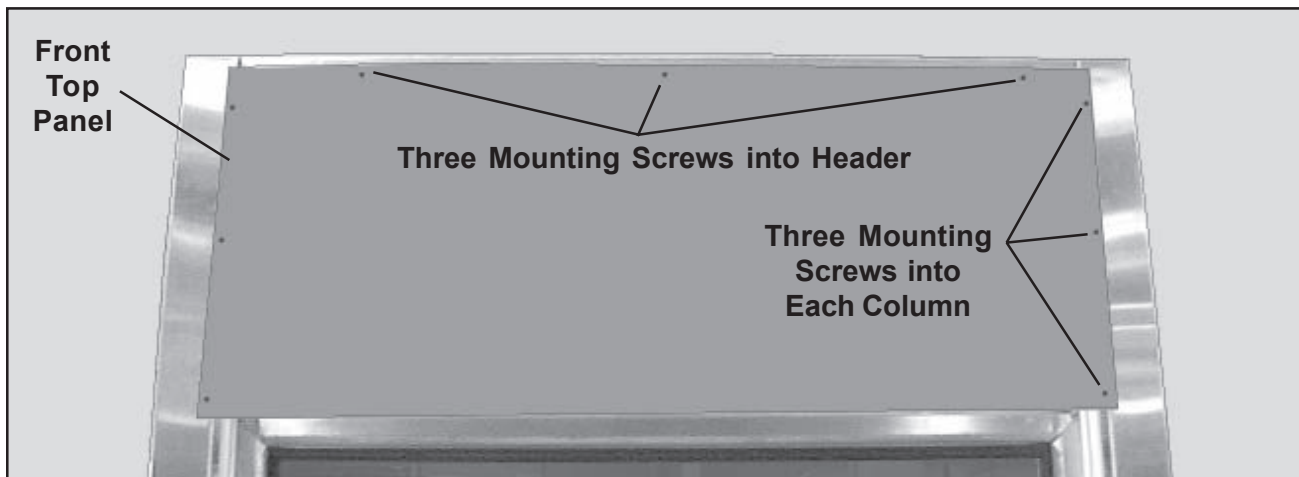

Figure 75. Front View of Cubicle Showing Front Top Panel
1. Remove the three Phillips screws that hold the front top panel to each column (Figure 75).
1. With a Phillips screwdriver, remove the nine mounting screws that hold the front top panel in place (Figure 75), and remove the panel.